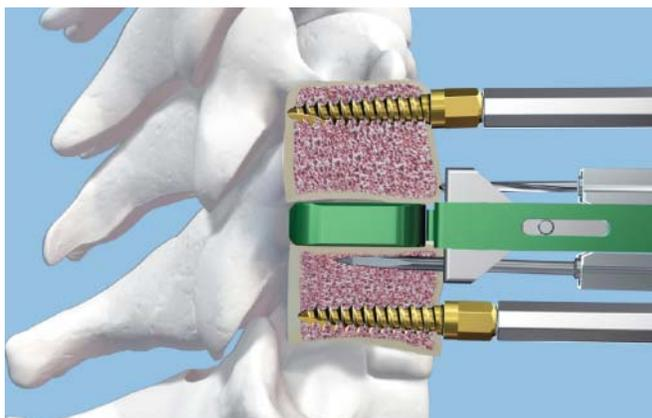

Figure 25
- Under lateral fluoroscopy, insert the milling bit into the superior hole of the guide until the tip of the mill touches the anterior cortex (Figure 25).